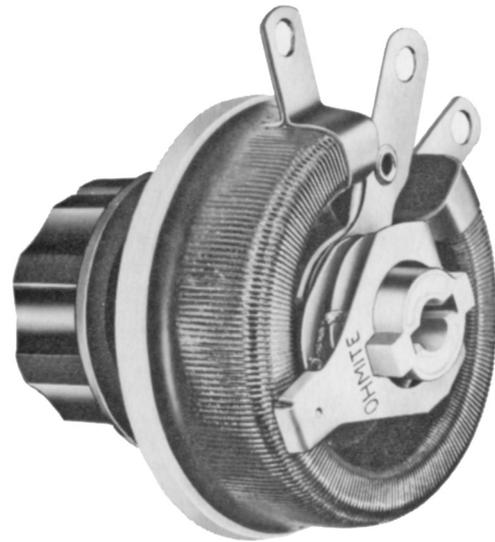
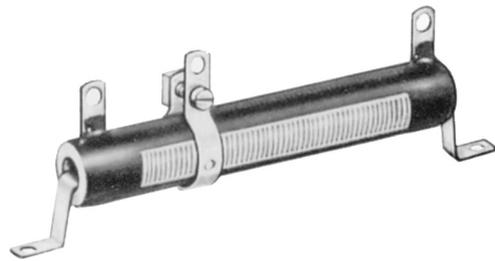
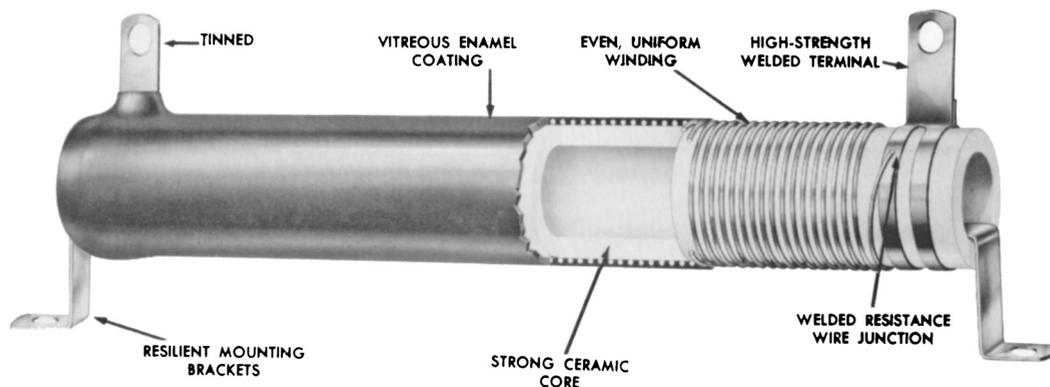

Fig. I-43 Variable wire-wound resistor.
Fig. I-44 Adjustable wire-wound resistor.
Fig. I-42 Wire-wound resistor.
- **Wire-wound resistors.** These resistors are used to provide sufficient opposition to current flow to dissipate power of 5 W or more. They are made of resistance wire (Fig. I-42). Variable wire-wound resistors are also available for use in circuits where voltage is changed at various times (Fig. I-43). Some variable resistors have the ability to be varied but also adjusted for a particular setting (Fig. I-44).